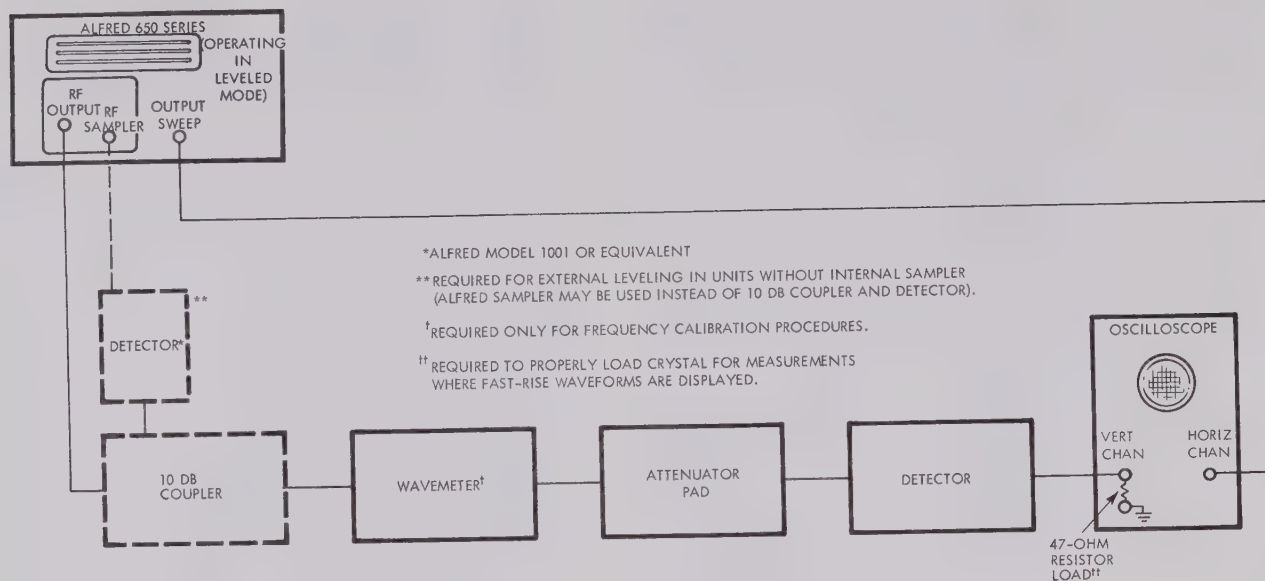

FIGURE 5-3. BASIC RF TEST SET-UP
5.3.3 FREQUENCY CALIBRATION ADJUSTMENT. (See Figure 5-3.)
5.3.4 CHECKOUT PROCEDURE FOR RESIDUAL FM AND AM. (See Figure 5-3.)
- f. For units which require external sampling, set the RF OUTPUT control to LEVELED. Connect a suitable external rf sampler loop to drive the RF SAMPLER INPUT jack, as shown in Figure 5-3, by inserting a sampler or a coupler and detector between the RF OUTPUT jack and the attenuator pad. With a suitable sampler and a proper adjustment of the RF SAMPLER SENS. panel control, it should be possible to obtain full-band leveling with a mid-range setting of the POWER LEVEL control; and response to adjustment of the POWER LEVEL control above and below the full-band leveling point should be as described in the Model 650 Instruction Manual. The maximum power output obtainable with full-band leveling should approximately equal the level specified in Table 1-1. The leveled power variation across the band should not greatly exceed the amount specified in Table 1-1. (An optimum external sampler loop using flat components can achieve the minimum variation specifications given in Table 1-1.) If leveler performance is unsatisfactory and the external sampler loop is known to be adequate, check the LEVELER BALANCE adjustment as directed in Paragraph 5.3.2.